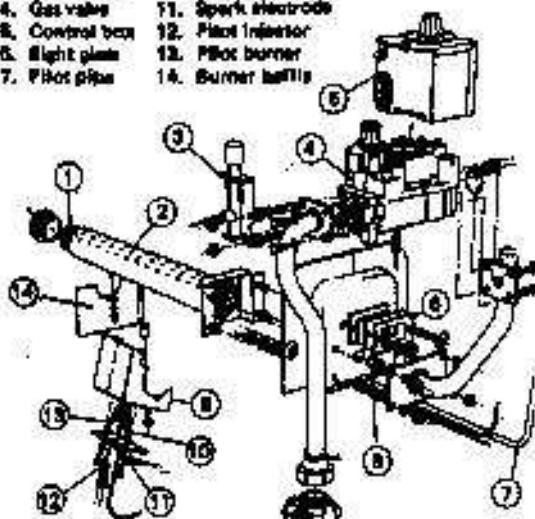

Fig. 19
When replacing a defective main burner bar, it is most important that the baffle (141) (refer Fig.19) is fitted to the new burner.
1. The pilot flame impinges on the thermocouple head and that the position of the thermocouple relative to the pilot burner, and the main burner, is as shown by Fig.19.